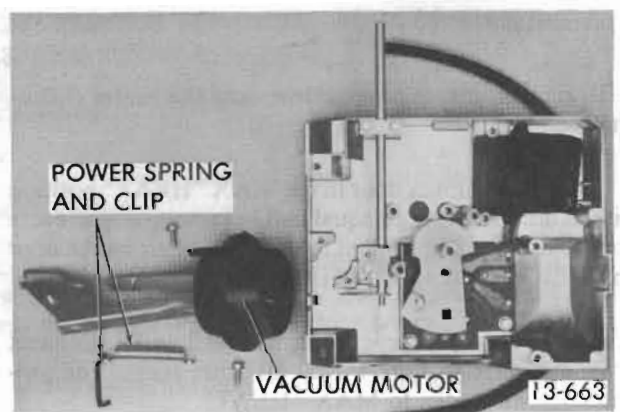

Figure 13-129 Vacuum Motor and Power Spring - Removed
4. Remove two (2) motor retaining screws and remove motor, lifting upward.
5. To replace, reverse removal procedure. See Figure 13-129.